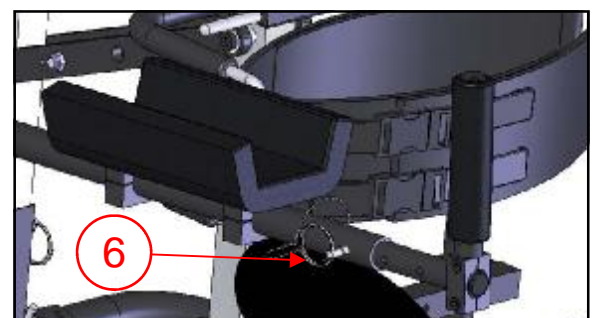

Figure 19D
5. Forearm depth can be adjusted by removing the ball lock pin (6). Figure 19D